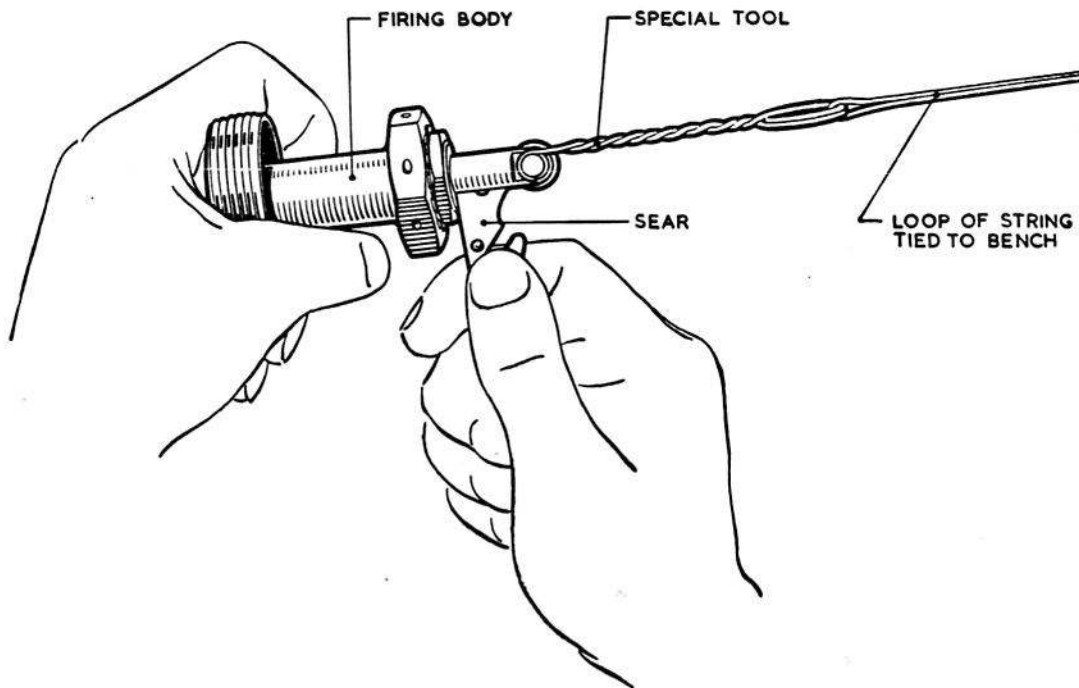
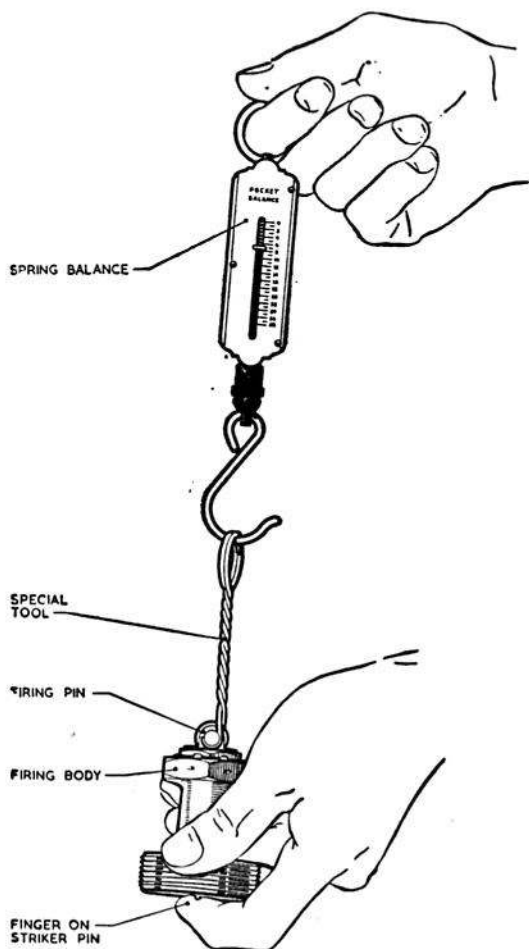

Fig. 9. Lifting firing pin with special tool
Fig. 10. Testing firing spring
- (2) Remove the firing pin from the firing body. Using kerosine, wash any traces of grease from the firing pin and the interior of the firing body, then lightly lubricate with oil, OM-13 (N.S. Patt. E.9/4422). Assemble the firing pin in the firing body.
- (3) Lift the firing pin with the special tool (fig. 9) and check that the firing sear moves freely in the slot, and that the firing pin moves freely throughout its stroke. Remove the sear and check the initial compression of the firing spring by the spring balance as shown in fig. 10. The firing pin should not start to move until 7 lb. is registered. The initial movement of the firing pin can be detected by holding the finger over the projecting end of the striker pin.